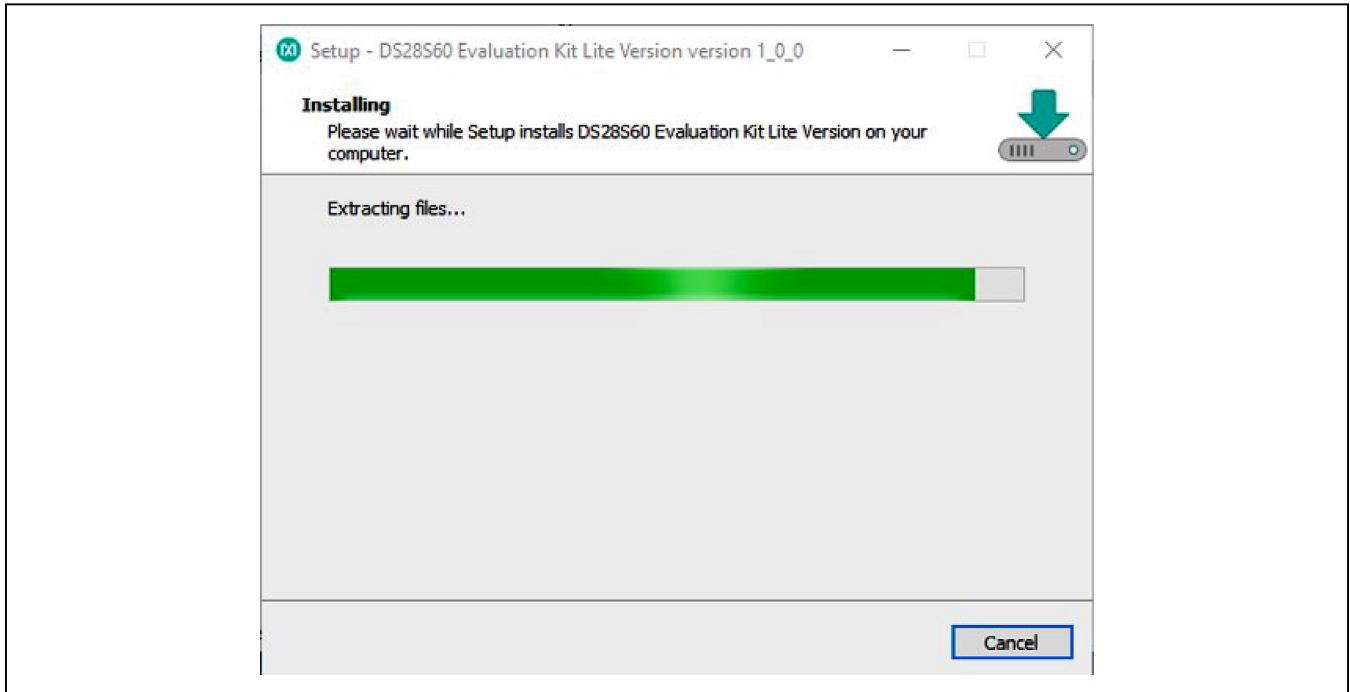
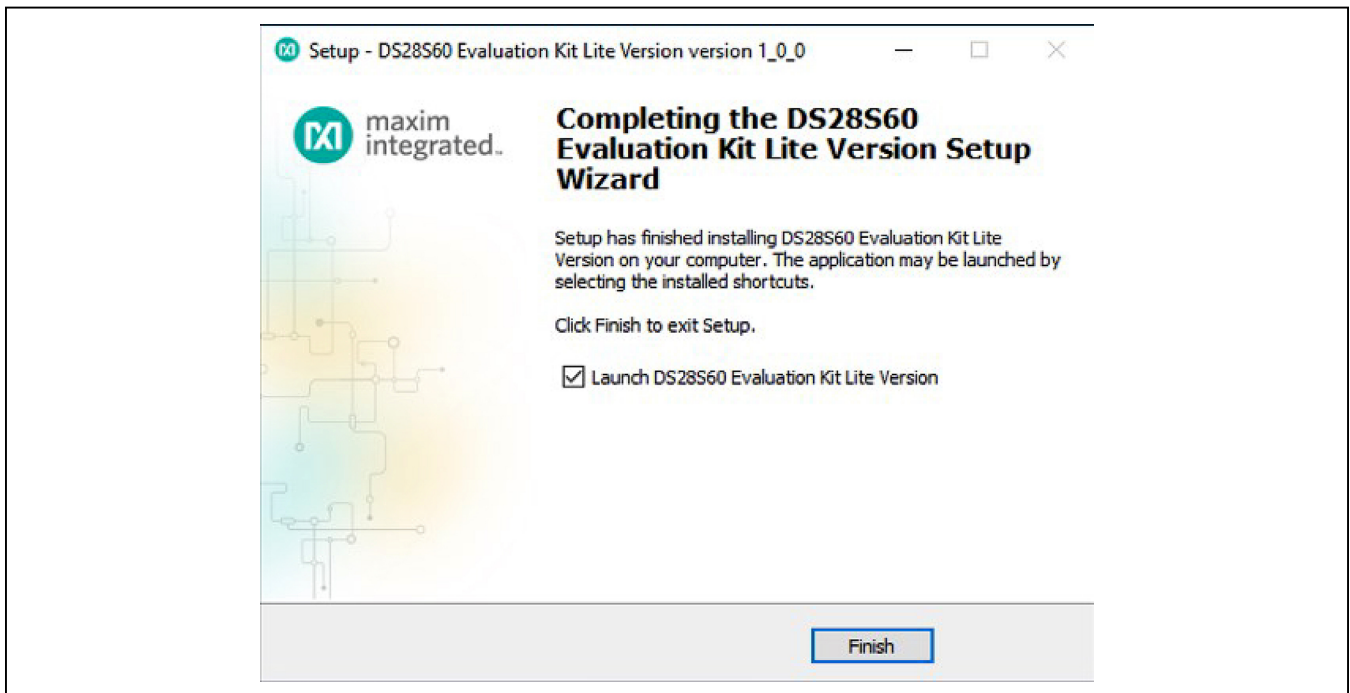

Figure 5. Installation Progress
Figure 6. Run Software After Installation
5) Wait for the Installation to complete and launch program if desired after completion (Figure 5 and Figure 6).